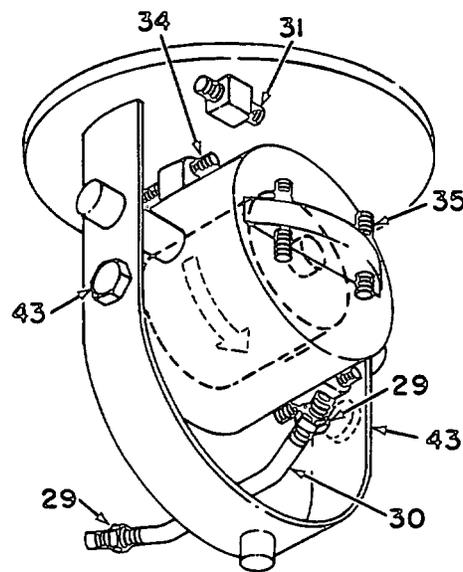

FIGURE 5-2 AXIS ASSEMBLY SHOWING BALANCING ADJUSTMENT POINTS
- a. With gyro in normal position (base down) set motor spin. axis perpendicular to outer gimbal axis. Select quantity and length (weight) of setscrews (35) in the rotor housing cap (37) so that inner gimbal will remain horizontal when released. (Trim setscrews (34) in figure 5-2 must be centered on inner gimbal axis). Lightly vibrate outer gimbal to break bearing friction as balance is approached.
- b. Rotate gyro to position outer gimbal axis horizontal and motor spin axis vertical. Adjust setscrews installed in preceding step, (35) in figure 5-2 so that motor axis remains vertical when released and outer gimbal is vibrated to break bearing friction.
- b. Check to see that outer gimbal can rotate freely and smoothly, then position outer gimbal so that inner gimbal axis is in the horizontal plane and motor spin axis is vertical. Adjust rough balance by adding or subtracting selected special screws (43) at position designated in the axis assembly (Figure 5-2).
- c. Adjust the two setscrews (31) on encoder disc end of the gimbal, with inner gimbal axis vertical so that outer gimbal will not rotate when released. Break bearing friction by light vibration as necessary.
- f. Position inner gimbal axis vertical and motor axis horizontal. Add, subtract and adjust nuts (29) along the bowed balance studs (30) to provide balance so that outer gimbal will not rotate when released. Break bearing friction as necessary during final adjustment.
- 3) ADJUSTMENT LOCKING. Secure all balance adjustment devices (except set-screws (34) in their optimized position by applying a small dot of adhesive, part number 005-02002-0004, at junction of threads. Allow adhesive to thicken at room temperature, then cure for one hour at 140 deg. F.